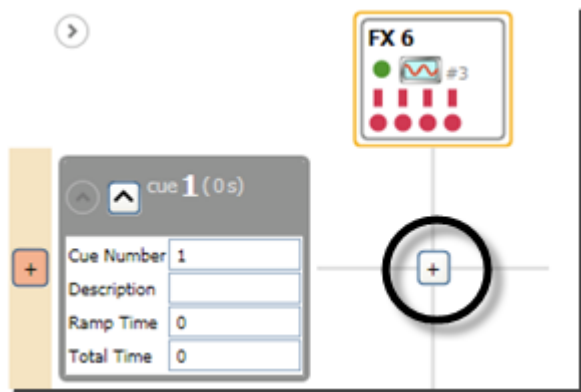

Figure 144
1. Click the “+” button in the **Cue Grid** correct associated with the Stagehand FX and Cue you wish to edit (Figure 144).